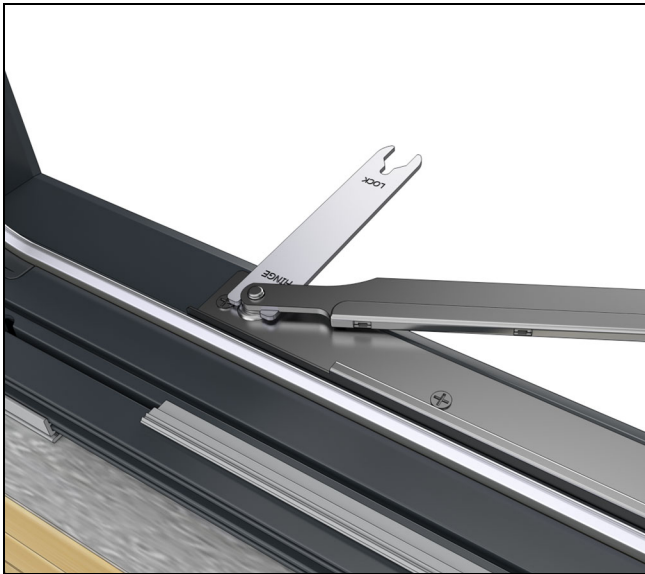

Figure 38
1. To adjust the hinge without detaching the support arms use the adjustment wrench to move the cam up to 45 degrees left or right. Make small adjustments at the top and bottom to obtain an even reveal. See Figure 38.